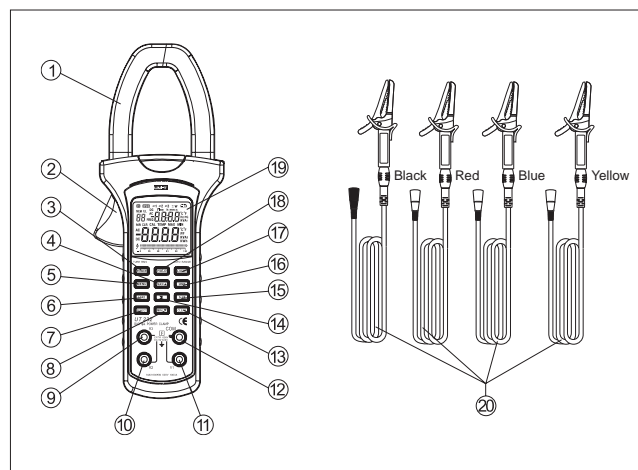

Figure 1
A. The Meter Front Structure (see figure 1)